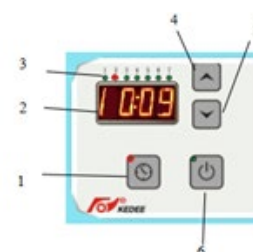

Fig. 6-4
- Click 🕒 Key (1) to save the settings (Fig. 6-4)